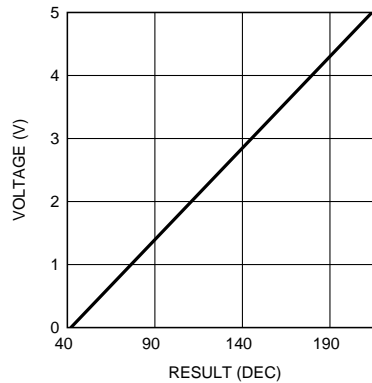

Figure 30.
- This is used to store the LED test result. Read-only register. LED test ADC least significant bit corresponds to 30 mV. The measured voltage  $V$  (typ.) is calculated as follows:  $V = (\text{RESULT}(\text{DEC}) \times 0.03 - 1.478 \text{ V})$ . For example, if the result is 10100110 = 166(DEC), the measured voltage is 3.50V (typ.). See Figure 30 below.